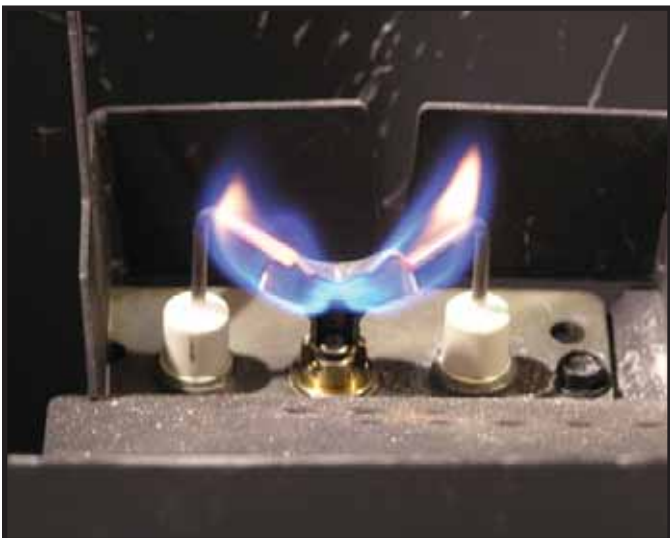

Figure 3.4 IPI Pilot Flame Patterns
- Inspect pilot flame pattern and strength. See Figure 3.4 for proper pilot flame pattern. Clean or replace orifice spud as necessary.